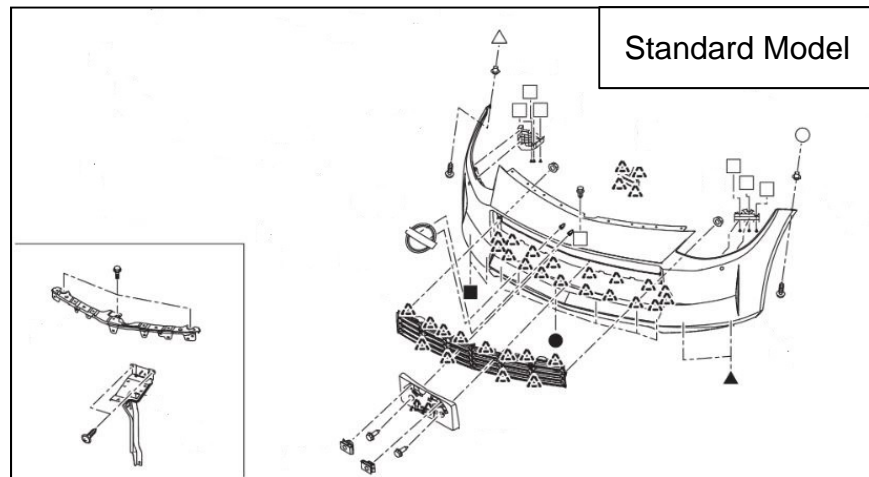
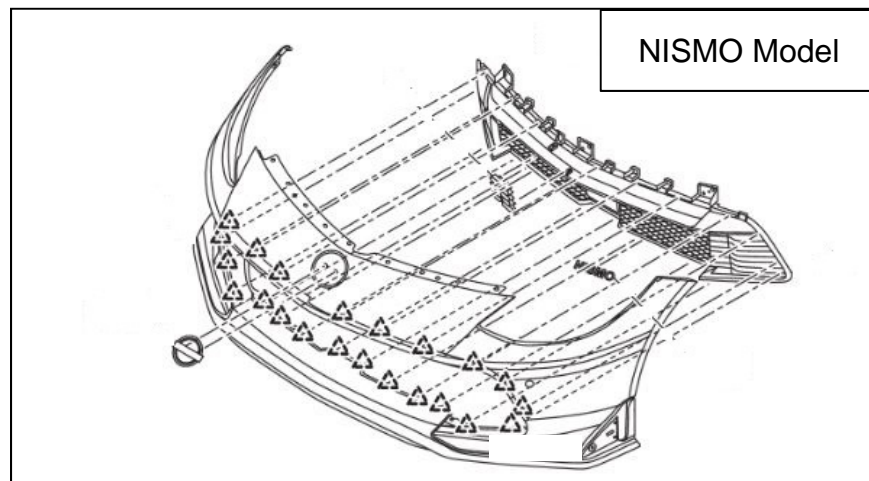

Figure 2
Figure 3
1. Remove the front bumper fascia from the vehicle (Figure 2 and Figure 3).